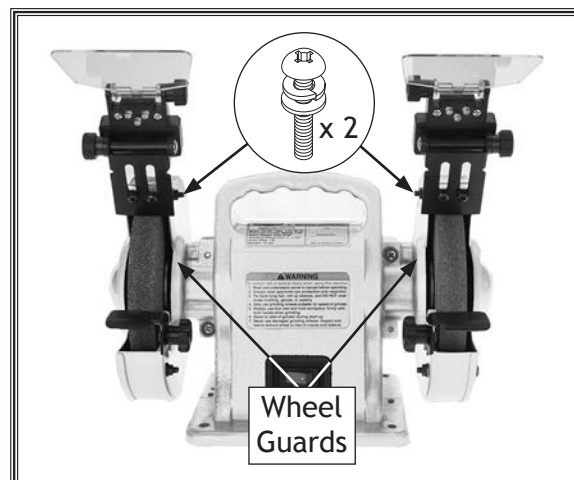

Figure 10. LED light housings and safety shields attached to wheel guards.
3. Attach each assembled LED light housing/safety shield to top of wheel guard with (2) M5-.8 x 10 Phillips head screws with captive washers (see **Figure 10**).